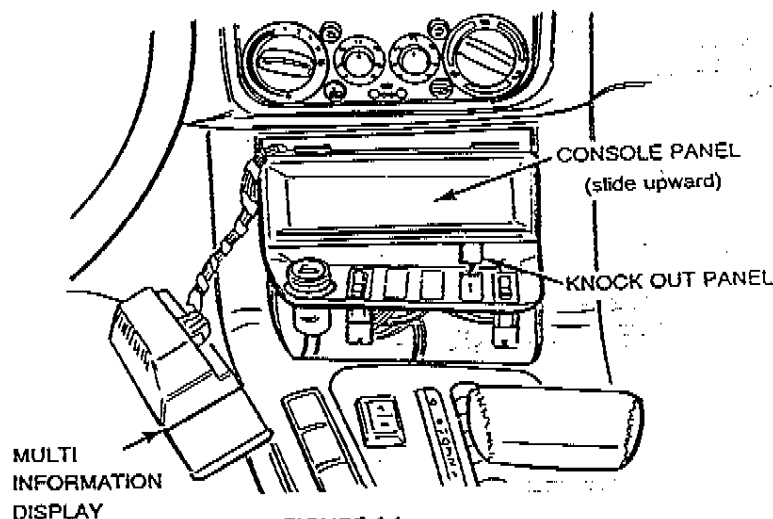

FIGURE 14
1. See Figure 14 . To remove the knock out panel, pry out the multi information display (BC V or Multi Function Clock) from the dashboard and lift up the forward console panel containing the knock out panels. Select one of the knock out panels and push out from the underside.